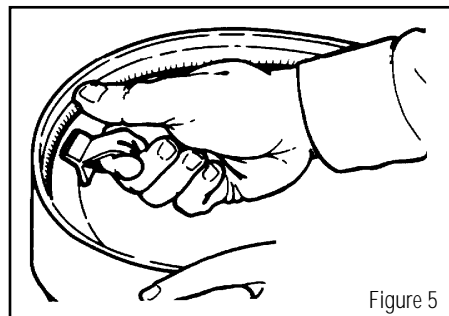

Figure 5
3. Turn helmet upside down. To remove inner shell from helmet, hook index finger into loop on back of inner shell. Press thumb against helmet rim and pull loop toward front of helmet, then pull up and away from helmet. (Figure 5) This releases inner shell.